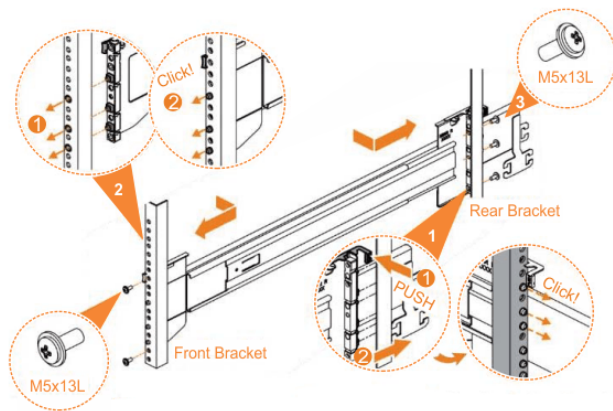

Figure 46. Installing the rail assembly to the rack frame
6. Use the M5 screws to install the outer rail member and bracket assembly to the rack, as shown in Figure 46 on page 86.